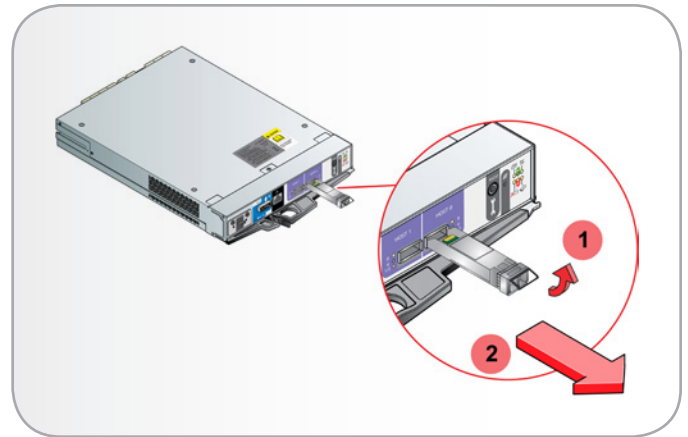

Fig. 85 - Removing the SFP Transceivers - RAID Controller Shown in the Installed Position
2. Rotate the ejector upward and pull the transceiver from the controller (Fig. 85, Item 1).
3. Rotate the ejector upward and pull the transceiver from the controller (Fig. 85, Item 2).